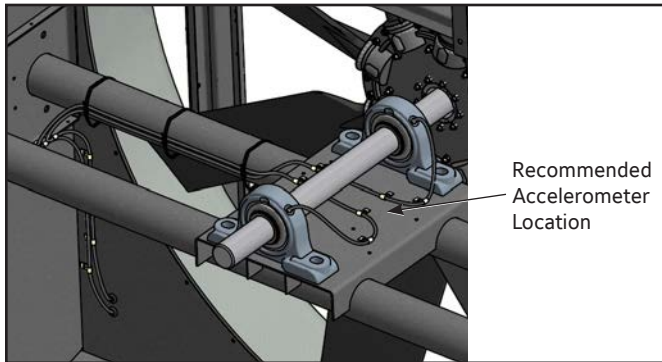

Figure 21 – Accelerometer Location - Belt Drive
- Attach the accelerometer (provided by others) onto the box beam as shown in Figure 21. The accelerometer should be placed on the top of the bearing support channel, near the fan side bearing, as shown.